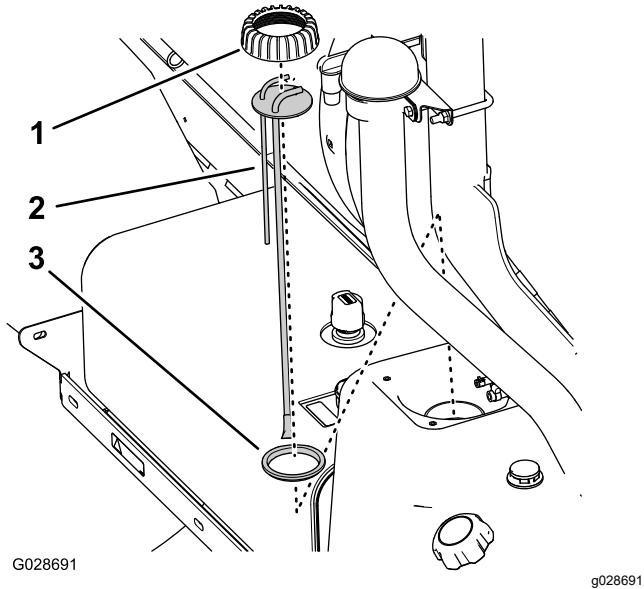

Figure 82
5. Rotate the fuel-standpipe/sender cap counterclockwise, then remove the cap (Figure 82).
6. Lift the fuel-standpipe/sender assembly from the fuel tank (Figure 82).
1. Assemble the standpipe cap over the standpipe and the standpipe to the seal (Figure 82).
2. Align the cap, standpipe, and seal to the tank, and carefully insert the new standpipe assembly into the fuel tank (Figure 82).
3. Thread the cap onto the neck of the fuel tank and tighten the cap hand tight (Figure 82).